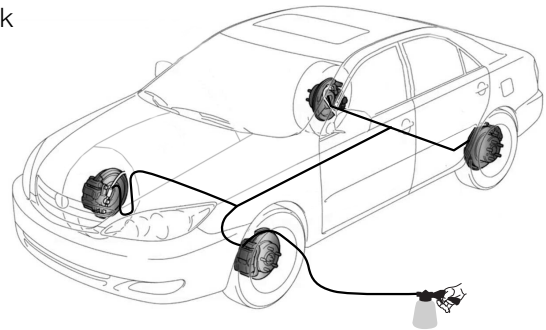

Figure 3
- 4) Activate the brake bleeder's trigger. The vacuum created will draw the brake fluid from the vehicle's brake system. (Figure 3)